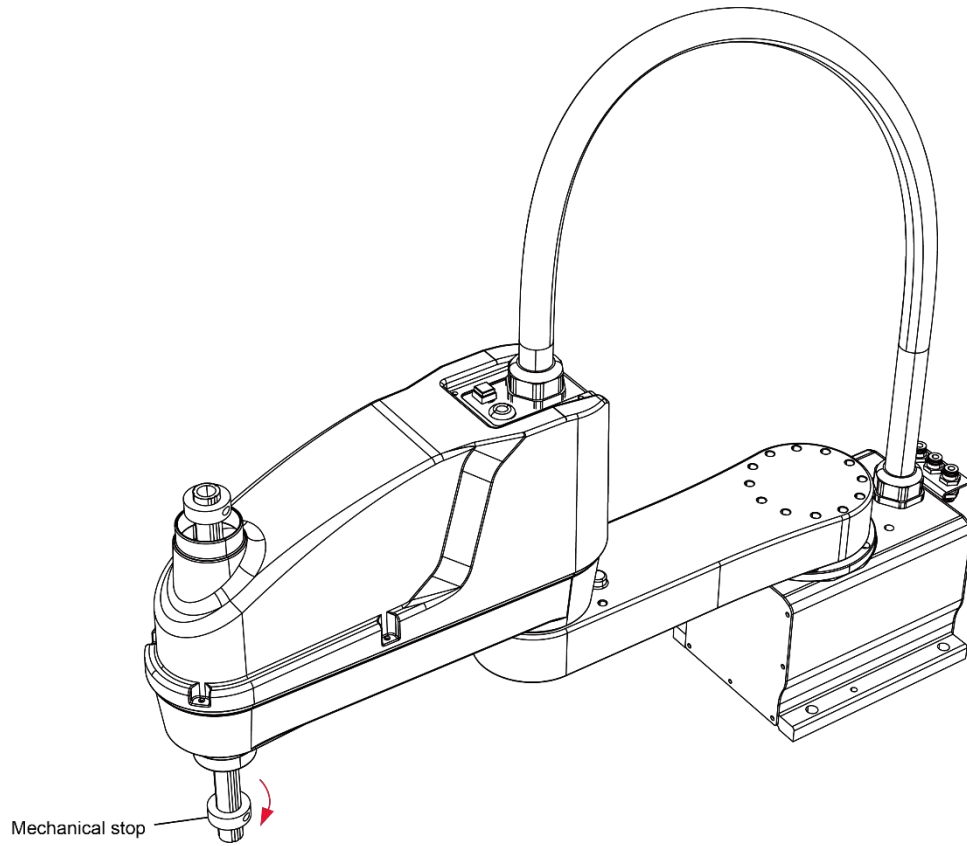

Figure 1.17 Mechanical stop
- Step 2** Rotate the mechanical stop clockwise on the ball screw to the limited position and then rotate it counter-clockwise about 180° or 360° . Figure 1.17 shows a mechanical stop.